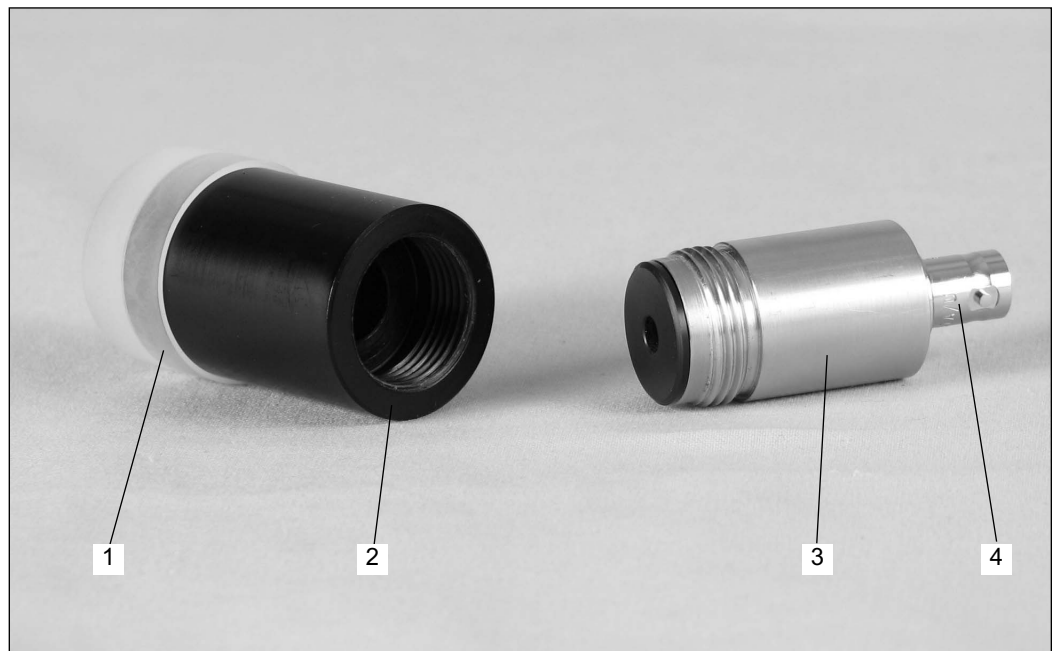

Fig. 1: Alpha detector (3) with shielding (2) and protective cap (1).
The alpha detector (3) (see Fig. 1) is supplied complete with a protective cap (1) for protection during transport and storage and a shielding (2) for shielding against visible light. The detector can be screwed into the shielding on one side. The opening on the opposite side of the shielding serves to hold a 12 mm diameter radiation source tube (e.g. 09090.03, 09047.51, 09090.11). The BNC-socket (4) on the alpha detector serves, together with a BNC cable, to connect the alpha detector to the charge-sensitive preamplifier 09100.10 (see Fig. 1).
For protection, the front contact area of the radiation-sensitive barrier layer is approx. 6 mm below the opening in the alpha detector. When the detector is not in use, always keep it closed with the shielding and the protective cap (see Fig. 1).
As the radiation-sensitive component of the alpha detector is a silicon photodiode, it is clear that the detector is sensitive to direct irradiation by visible light. With such irradiation, no measurements or no measurements with high resolution of radioactive irradiation can be carried out. The shielding (see Fig. 1 (2)) that is standardly supplied serves to shield against visible light when experiments are carried out. It is to be screwed onto the detector. A 12 mm diameter radiation source tube can be fitted in the shielding opposite to the detector. This arrangement effectively screens the silicon photodiode from visible light during experiments.